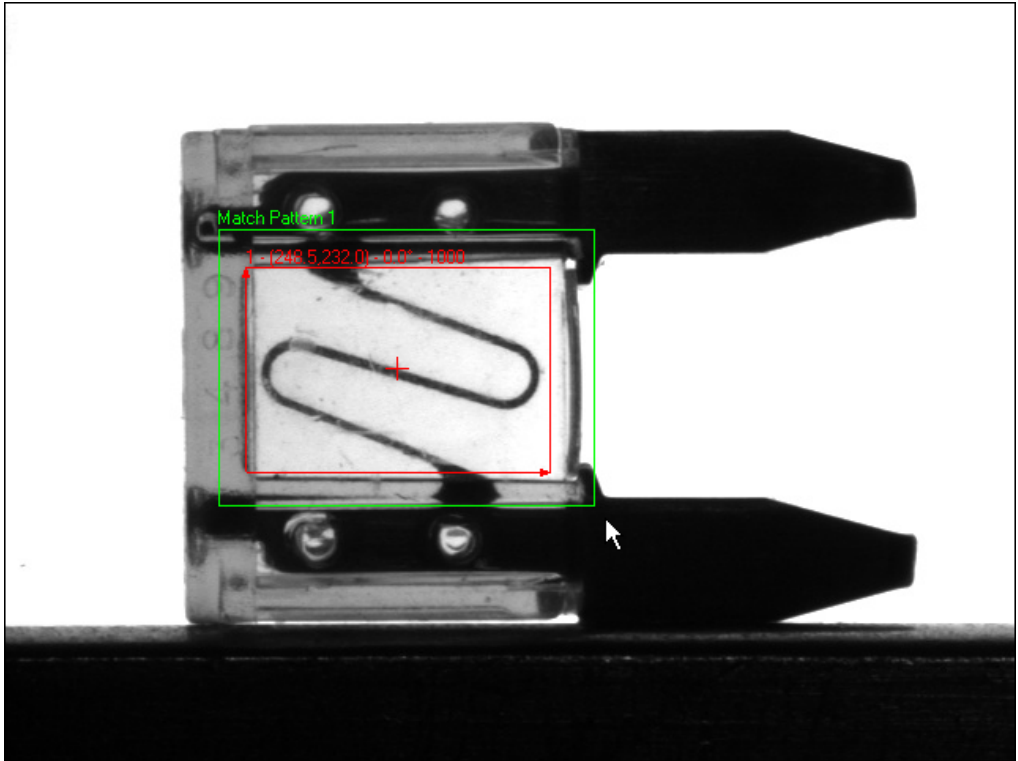

Figure 4-4. Limiting the Search Region
7. Redraw or decrease the default green region of interest so that it surrounds an area slightly larger than the template, as shown in Figure 4-4.